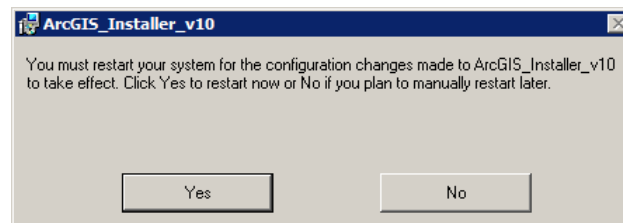

Figure 2-15 ArcGIS Setup Wizard – Restart System
7. The Esri installation requires a system restart to complete the installation process. Close open programs before restarting the computer. Click Yes to restart (Figure 2-15).